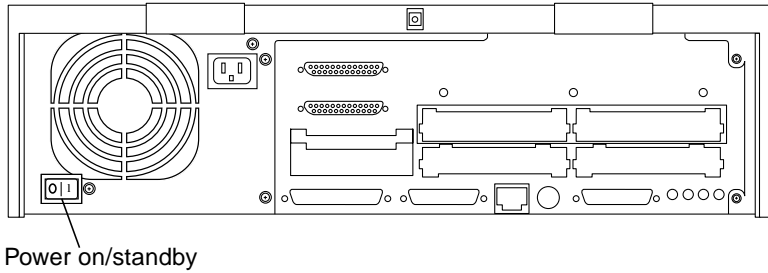
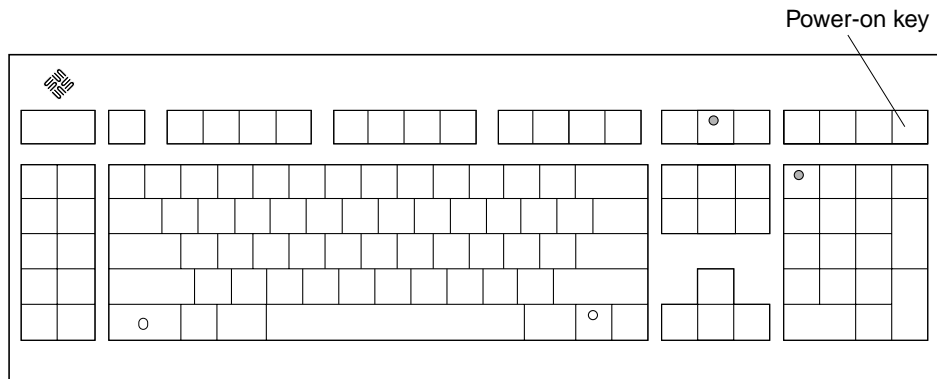

FIGURE 6-1 Rear View of the System Unit
FIGURE 6-2 Sun Type-5 Keyboard
3. **Set the power on/standby switch to the on (I) position (FIGURE 6-1) or press the Sun Type-5 keyboard Power-on key (FIGURE 6-2).**
4. Set the power on/standby switch to the stand-by (O) position (FIGURE 6-1).